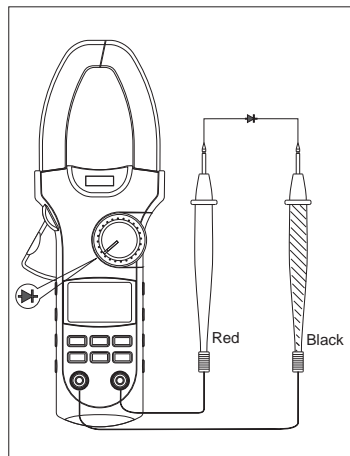

Figure 5
C. Testing Diodes (see figure 5)